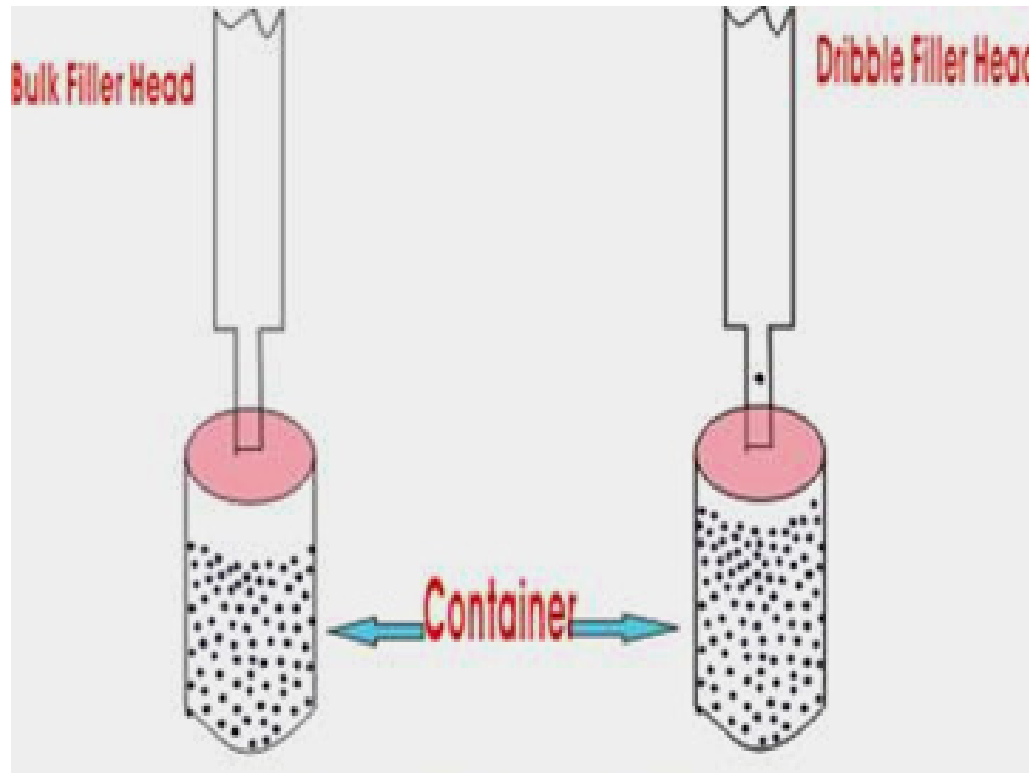

Figure 20.28 Two stage filler
- A two-stage net weight fillers (Figure 20.28) are used to increase their accuracy and speed. In the first stage the bulk of the fill is dropped rapidly into the chamber by a large filling spout, then the chamber is moved under a smaller spout that dribbles in amount of product that is needed to complete the fill.